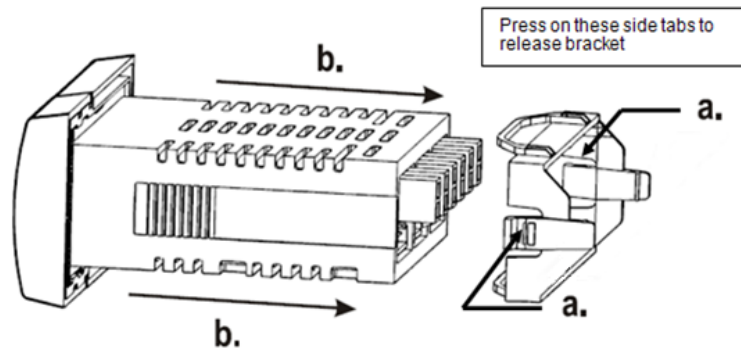

Figure 7: Fixing Bracket Removal
3. Remove the fixing bracket by pressing on the side tabs and sliding the bracket backwards, leaving the gasket in place around the front panel of the FX06 enclosure (Figure 7).